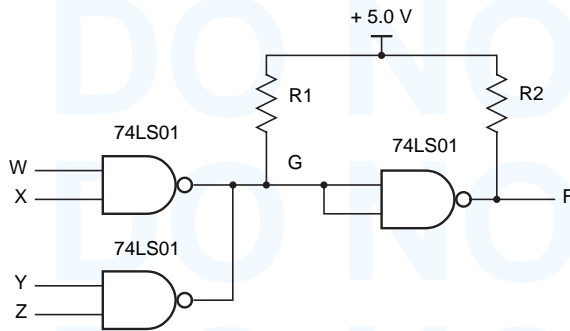

Figure X3.92
- 3.92 The circuit in Figure X3.92 uses open-collector NAND gates to perform “wired logic.” Write a truth table for output signal F and, if you’ve read Section 4.2, a logic expression for F as a function of the circuit inputs.
- 3.93 What is the maximum allowable value for  $R1$  in Figure X3.92? Assume that a 0.7-V HIGH-state noise margin is required. The 74LS01 has the specs shown in the 74LS column of Table 3-11, except that  $I_{OHmax}$  is  $100\ \mu A$ , a leakage current that flows *into* the output in the HIGH state.
- 3.94 Suppose that the output signal F in Figure X3.92 drives the inputs of two 74S04 inverters. Compute the minimum and maximum allowable values of  $R2$ , assuming that a 0.7 V HIGH-state noise margin is required.